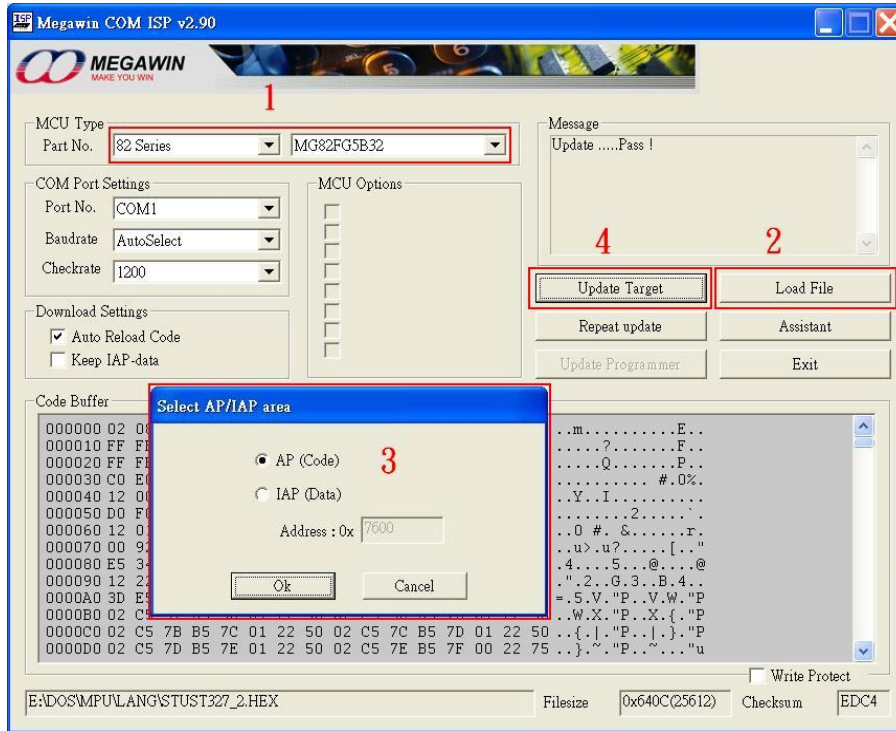

Figure 4: Megawin COM ISP v2.90
- A user open Megawin COM Port ISP version 2.90 is shown in Figure 4.